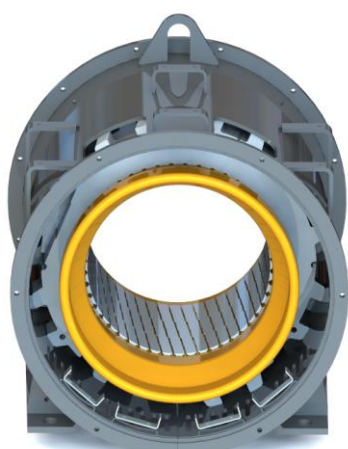

Figure 6.1: Ceramic resistances clamps attached internally in the back side of alternator
5. Carry out the frame drilling and attaching of 04 clamps with rivets, according to Figure 6.1.